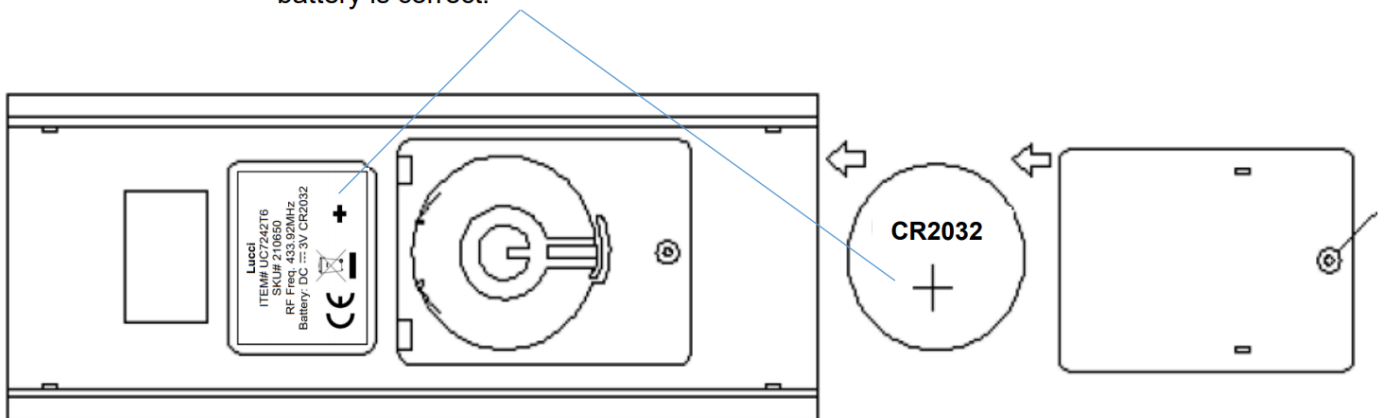

Fig. 11
**BATTERY INSTALLATION (Fig.11)**
Install the 3V CR2032 DC battery in the compartment. Please make sure the polarity of the battery is correct. (Fig. 11)
- Install the 3V CR2032 DC battery in the compartment. Please make sure the polarity of the battery is correct. (Fig.11)